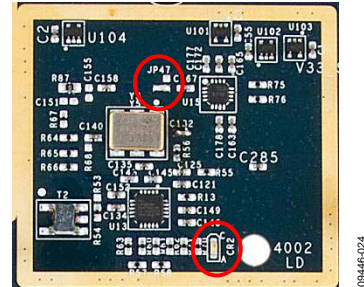

Figure 24. ADF4002 (2) Placement
A photo of the ADF4002 (2) placement is shown in Figure 24. The reference input for the second ADF4002 (2) is a buffered version of the synthesized 122.88 MHz reference from the first ADF4002 cleanup stage. JP47 can be shorted to provide a 26.0 MHz external reference out of J1 to be used for instrument synchronization. The 26.0 MHz output of the second ADF4002 (2) is buffered with the ADCLK905 and distributed to both the ADF4350 and ADF4351 for Rx/Tx LO generation. When this PLL is locked, CR2 is illuminated.